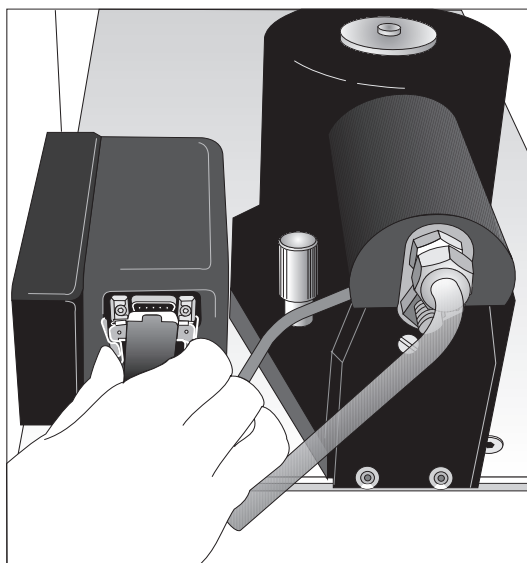

Figure 2.1
2. Plug the end of the heater exchanger cable into the electrical assembly as shown in Figure 2.1.